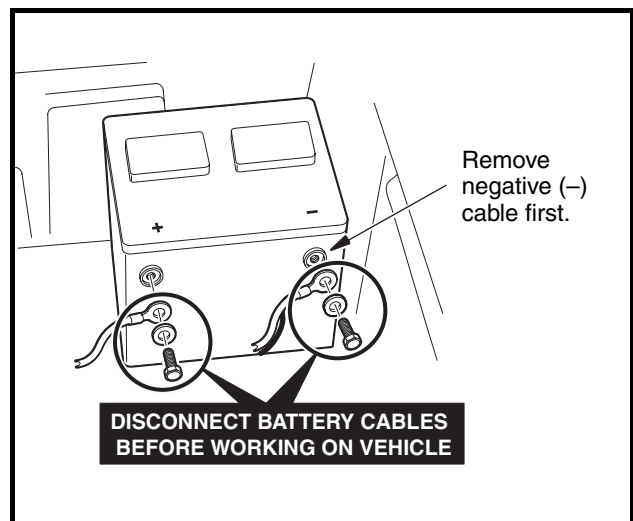

Figure 2 Battery Cable Removal – Gasoline
- Disconnect battery cables, negative (-) cable first (Figure 2).